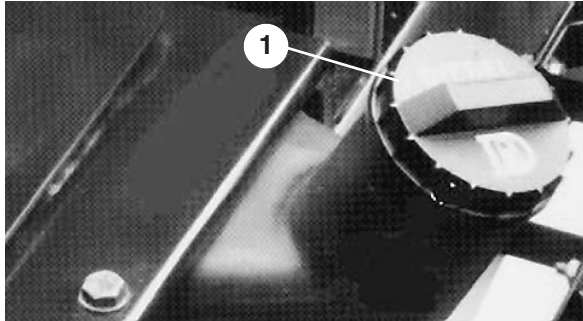

Figure 5
2. Remove the cap from the fuel tank (Fig. 5).